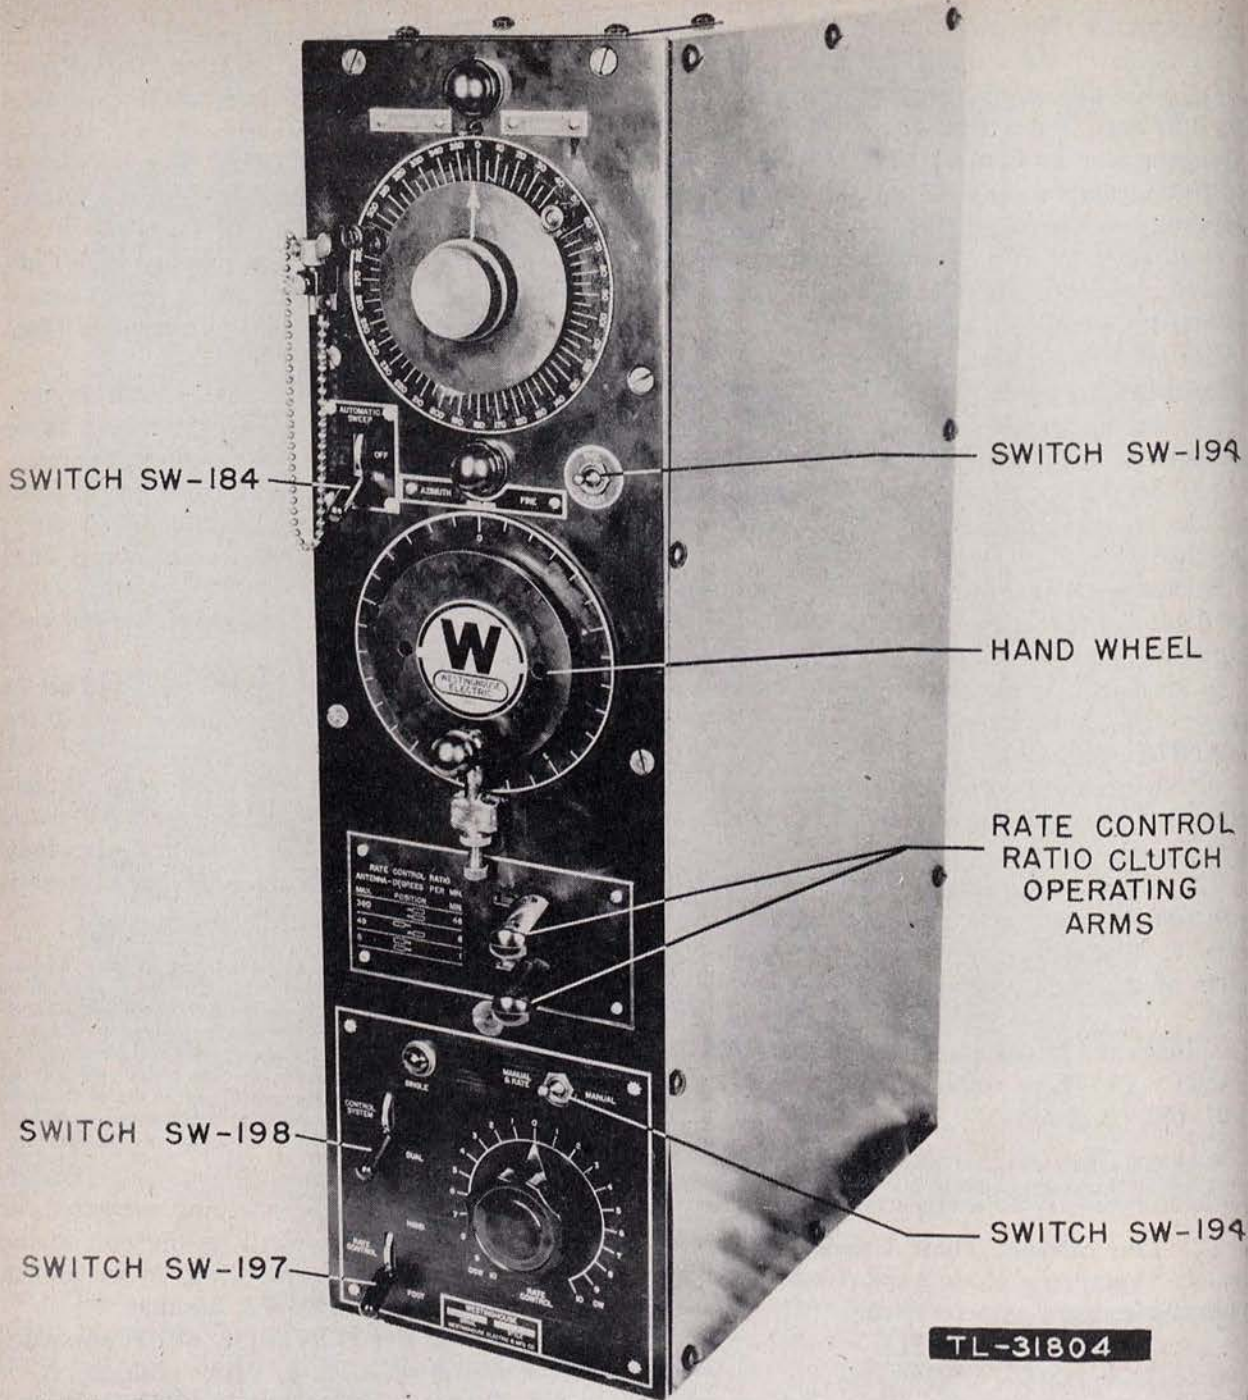

Figure 37. Control Unit BC-1011-A.
c. ACTION. Turn rate control rheostat to the desired position. If foot-controlled operation is desired, RATE CONTROL Switch SW-197 should be placed in the FOOT position. (See fig. 37.)
d. NORMAL RESULTS OF ACTION. (1) *Visible.* Azimuth dials and antenna will rotate.
(1) Place the selector switch on Control Unit BC-1012-B in the RIGHT position.
(2) Place Switch SW-198 on Control Unit BC-1011-A in the SINGLE position.
(3) To transfer to the left-hand control unit, throw the selector switch on Control Unit BC-1012-B to the LEFT position.
(4) Place the SINGLE-DUAL Switch SW-198 on both Control Units BC-1011-A in the DUAL position.
b. Later model sets may be supplied with Control Unit BC-1011-B which differs from Control Unit BC-1011-A in the following respects (figs. 37 and 38):
(1) A CONTROL SYSTEM switch is provided for switching the spare control unit in or out of operation. This switch eliminates the transfer relay, Dunco type 58 XDX (mounted in Junction Box JB-61 at rear of operating equipment), previously supplied with kits using Control Unit BC-1011-A.
(2) The rate control ratio clutch (speed control) has been eliminated.
(3) The AZIMUTH COARSE dial and sector limit pins have been located behind a window for added protection.
(4) Illumination has been improved. Unnecessary lights previously located on the front panel have been eliminated. The azimuth dial is indirectly illuminated and a light-dimmer control is provided.